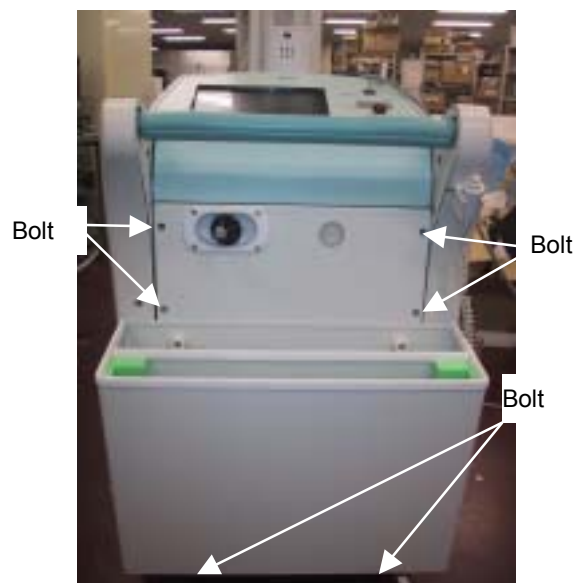

Fig. 3-4 Points fastened on the storage bin
2. Loosen the two bolts on the bottom of the storage bin shown in Fig. 3-4 and remove the four bolts in front.